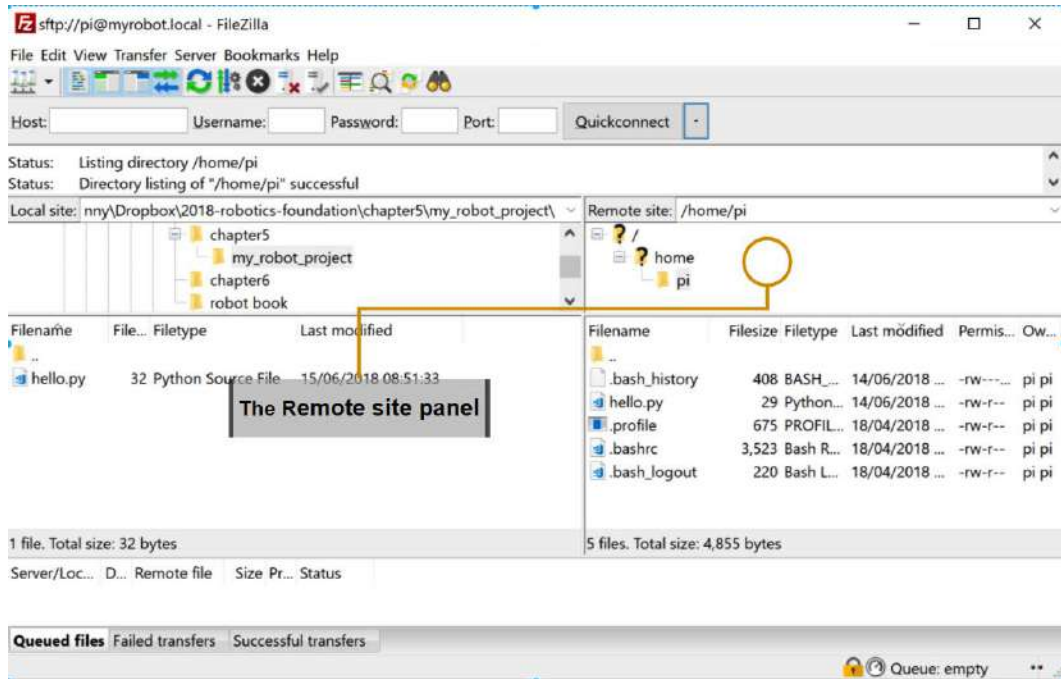

Figure 5.2 – The Raspberry Pi connected
8. When connected, you'll see files on the Raspberry Pi in the right-hand **Remote site** panel, shown in Figure 5.2: